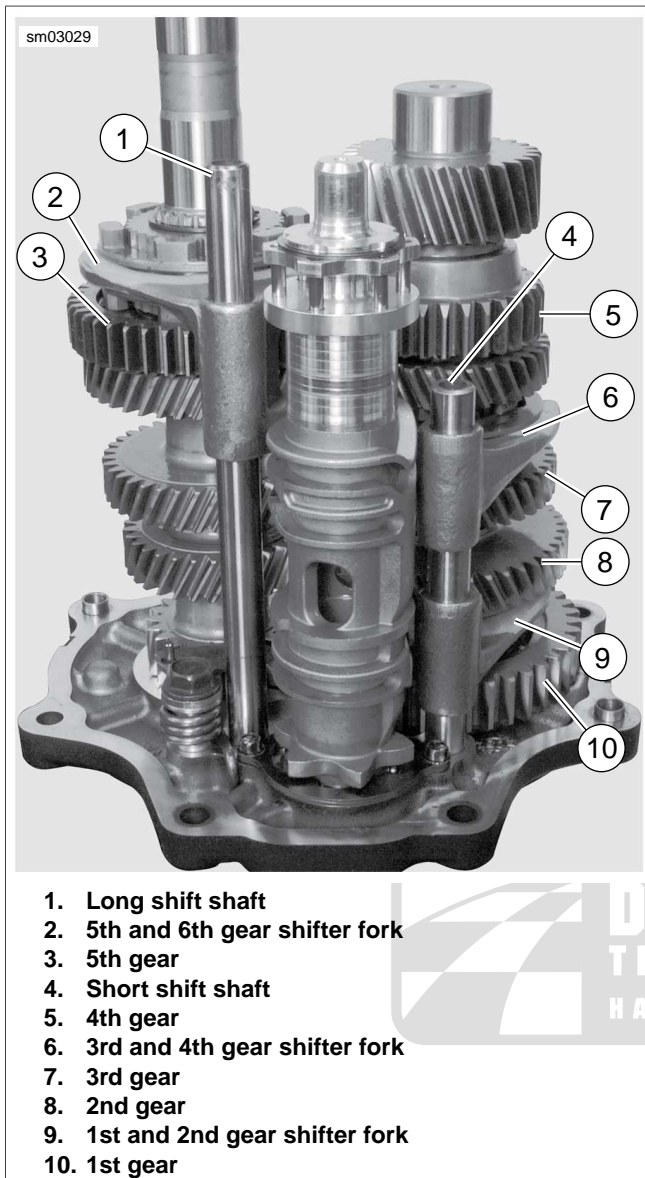

Figure 6-32. Transmission Gears and Shifter Forks
10. See Figure 6-32. Insert shifter fork (2) into the slot of the dog ring in between mainshaft 5th and 6th gear. Slide long shift shaft through 5th and 6th gear shifter fork and install shaft in hole in side door.
11. Insert shifter fork (6) into the slot of the dog ring in between countershaft 3rd and 4th gear. Insert shifter fork (9) into the slot of the dog ring in between countershaft 1st and 2nd gear. Slide short shift shaft through countershaft shifter forks and install shaft in hole in side door.